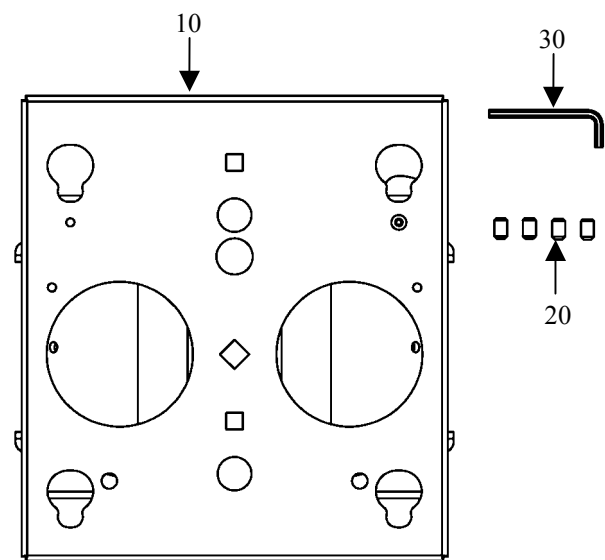

Figure 1. Parts
2. Lay out components to ensure you have all the required parts before proceeding (see Figure 1). If you are missing any of the listed parts, contact Customer Service at: 1-800/582-6480.
Unpack the shipping carton and check for the contents listed in Table 1 and shown in Figure 1.